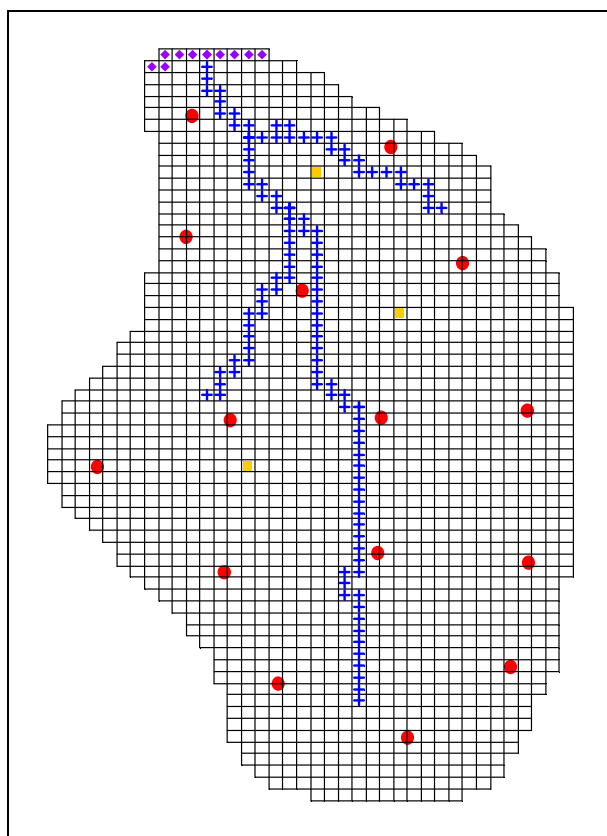

Figure 15-1 Placement of Scatter Points
1. Click out a set of scatter points similar to those shown in Figure 15-1. Create about 15 points. Don't worry about the exact location of the points, as long as they are distributed in a reasonable fashion.